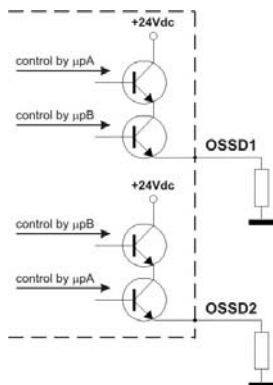

Fig. 15
- The safety contacts OSSD1 and OSSD2 cannot be connected in series or in parallel; both can be used separately (Fig.15).